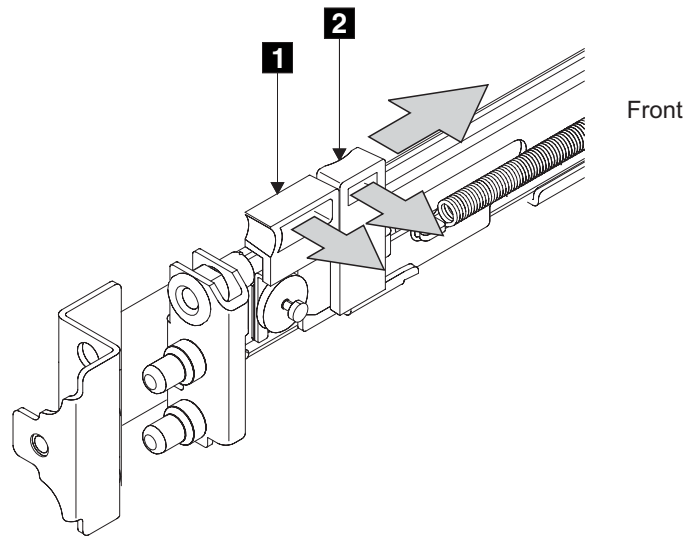

Figure 126. Opening the front latch-lock carrier assembly
5. Gently push the latch lock **2** (Figure 126 on page 181) away from the rail as you move the latch lever **1** towards the far end of the rail. The latch-lock carrier assembly slides against the spring tension.